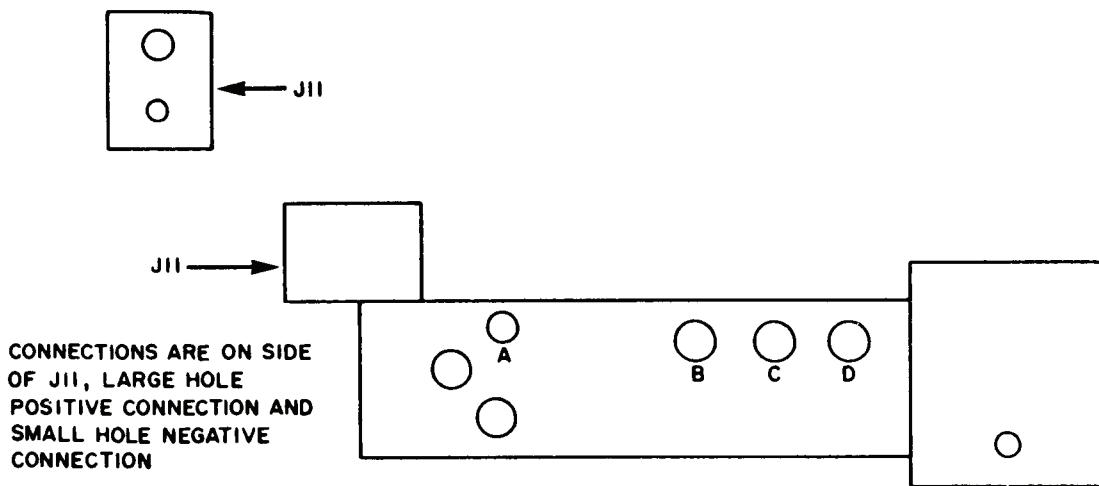

Figure 2. J11 Connection location on receiver alignment test receptacle.
(1) Disconnect dc power supply from **XMTR BAT**, and connect to **INTERNAL BATTERY** observing polarity.
(2) Disconnect multimeter from resistance standard and connect to dc power supply.
(3) Disconnect resistance standard from **XMIT ALIGN** connection and connect to J11 (large hole positive and small hole negative) (fig. 2).
(4) Set resistance standard to 4900 Ω.
(5) Set **FUNCTION** switch to **RCVR OSC**.
(6) Adjust dc power supply for a 10 V indication on multimeter.
(7) Disconnect multimeter from dc power supply and connect across resistance standard. Multimeter will indicate greater than 5.6 V dc.